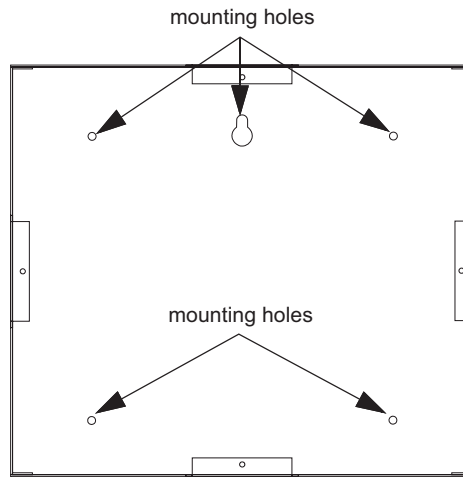

Figure 4.26 RA-2000 Backbox Mounting
2. Mark and pre-drill hole in the wall for the center top keyhole mounting bolt. Refer to Figure 4.26 for mounting hole locations.